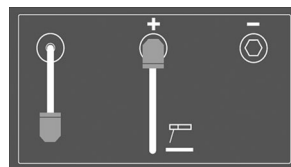

Fig. 4
Selecting the welding option will open the output set-up screen. This displays the welding unit configuration. In Fig. 4 the dinse connector (D) is plugged into the positive output for stick welding. The ground cable would plug into the other polarity outlet.
Once the type of welding is selected, the image of the correct output set-up of the dinse (Fig. 4) will appear.